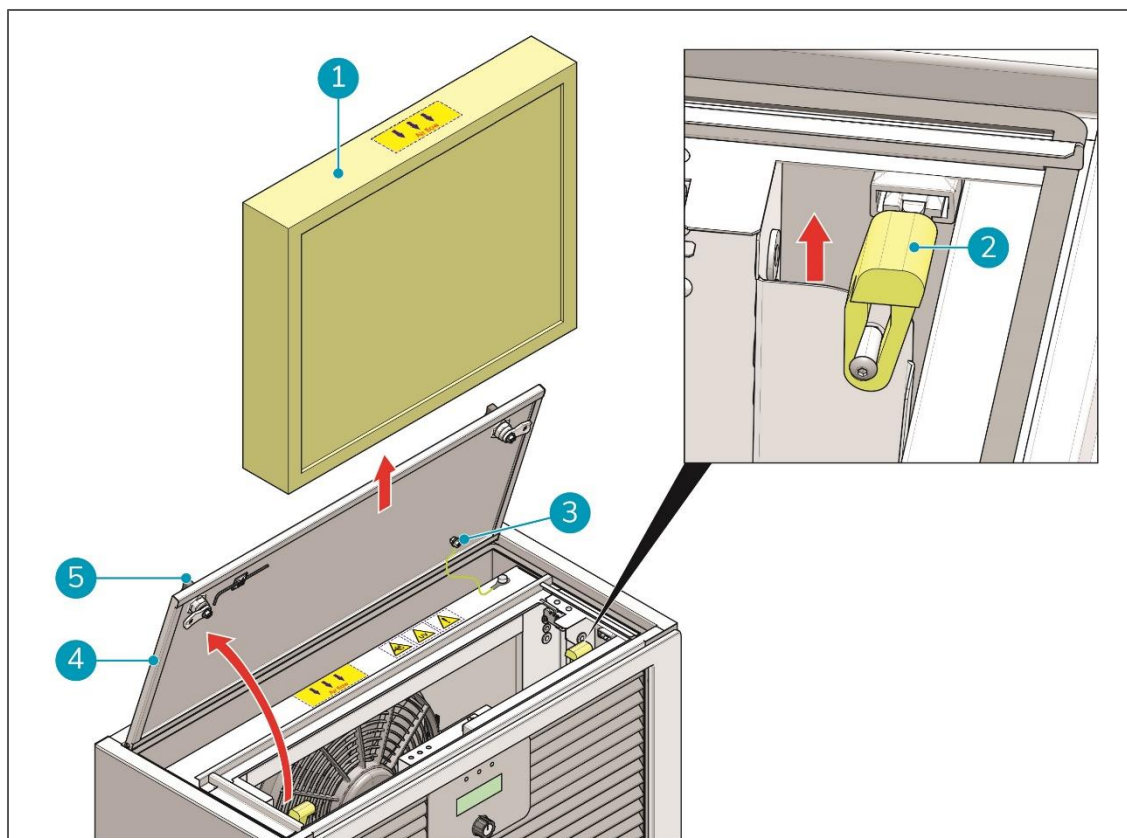

Figure 20
1. Turn the two knobs (Figure 20, pos. 5) on the main HEPA filter compartment panel (Figure 20, pos. 4) counter clockwise until the panel is loose.
NOTE: There is a ground wire (Figure 20, pos. 3) connecting the compartment panel and the main ICon Pro unit. **DO NOT** disconnect it.
3. Pull up the two yellow locking levers (Figure 20, pos. 2) to release the filter.
4. Carefully pull out the filter (Figure 20, pos. 1) from the compartment.